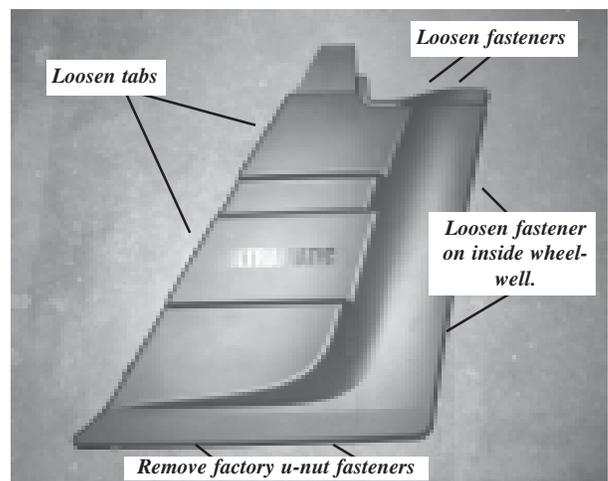

Figure 2
3. Loosen and remove fasteners from vehicle side panels to both sides. **(Figure 2)**